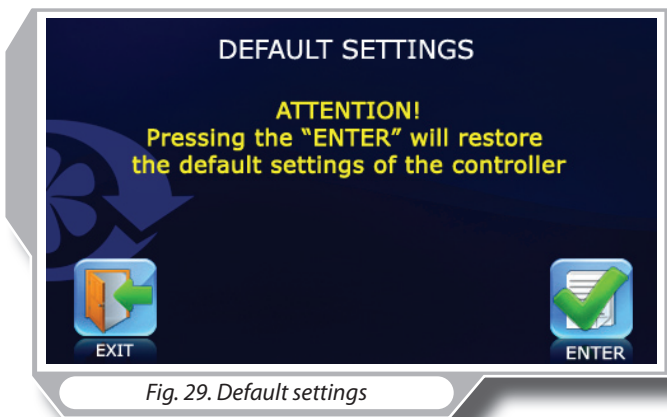

Fig. 29. Default settings
- To confirm **RESET**, press the button **ENTER**  (fig. 29).